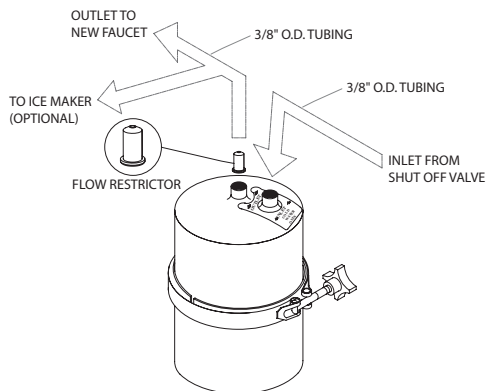

Figure 4
- Use 1/4 inch OD tubing (not supplied) to connect the inlet shut off valve to the inlet of the filter housing (see figure 4). To secure the connection, press the tubing in firmly.
- Connect the new faucet to the outlet of the filter housing (see figure 4). To secure the connection, press the tubing in firmly.
- For an ice maker connection, install a tee (not supplied) between the outlet and the new faucet. Connect the tubing to the ice maker (see figure 4).